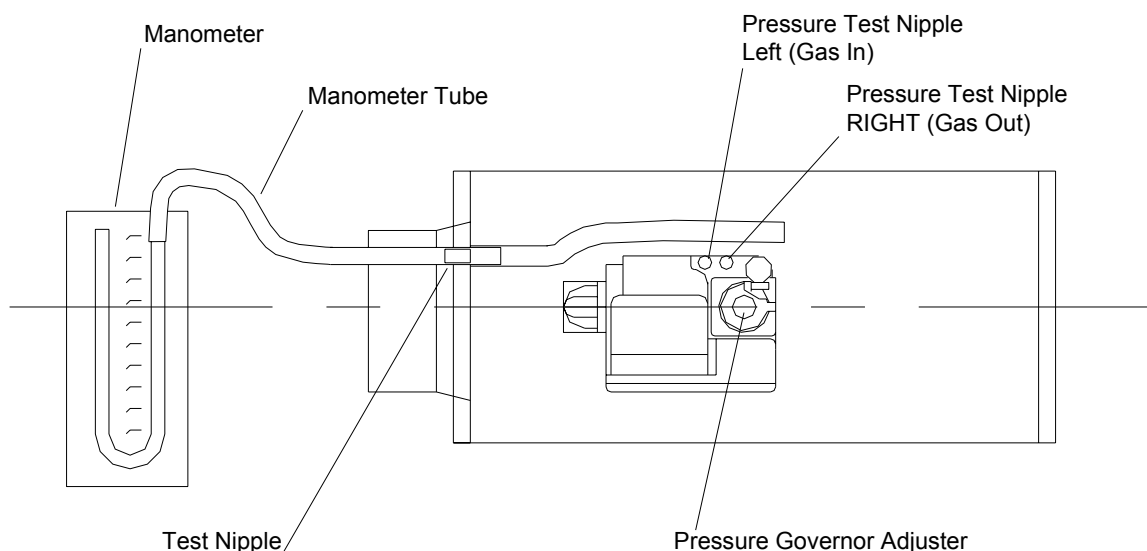

Fig. 29
- 7.3.2 Connect a manometer to the test nipple protruding from the rear panel of the Control Box (adjacent to the Air Inlet Adaptor) see Fig. 29.
7.3.4.1 Unscrew the sealing screw (two turns) of the LEFT (Gas IN) Control Valve test nipple and connect the free end of the manometer tube (permanently connected to the manometer test nipple inside the rear panel of the control box) to this test nipple (See Fig. 29). Close the control box door and secure with the two toggle latches.
7.3.5.1 Unscrew the sealing screw (two turns) of the RIGHT (Gas OUT) Control Valve test nipple and connect the free end of the manometer tube (permanently connected to the manometer test nipple inside the rear panel of the control box) to this test nipple (See Fig. 29). Close the control box door and secure with the two toggle latches.
7.3.5.3 In the event that the burner setting pressure is incorrect, switch off the electricity supply to the appliance and remove the cap from the integral pressure governor for the Control Valve. Close the control box door and switch on the electricity supply to the appliance to ignite the burner. Remove the plug from the boss in the upper surface of the control box door and insert a suitable screwdriver through the exposed hole in the box to locate the governor adjusting screw. Adjust the pressure by turning the pressure governor adjusting screw clockwise to increase or anti-clockwise to decrease the burner setting pressure. See Fig. 29.